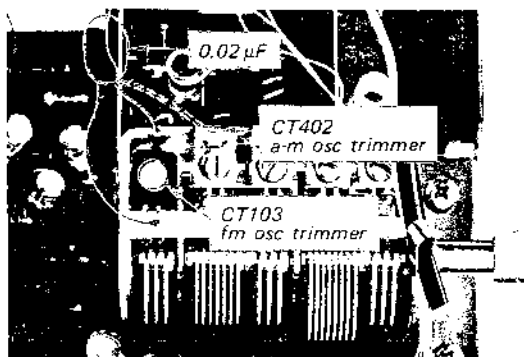

Fig. 3-2. Interruption of fm or a-m local oscillator operation
**Note:** Local oscillator should be killed when performing this alignment. To kill the local oscillator's operation, shunt the oscillator capacitor with a 0.02 μF capacitor. See Fig. 3-2.